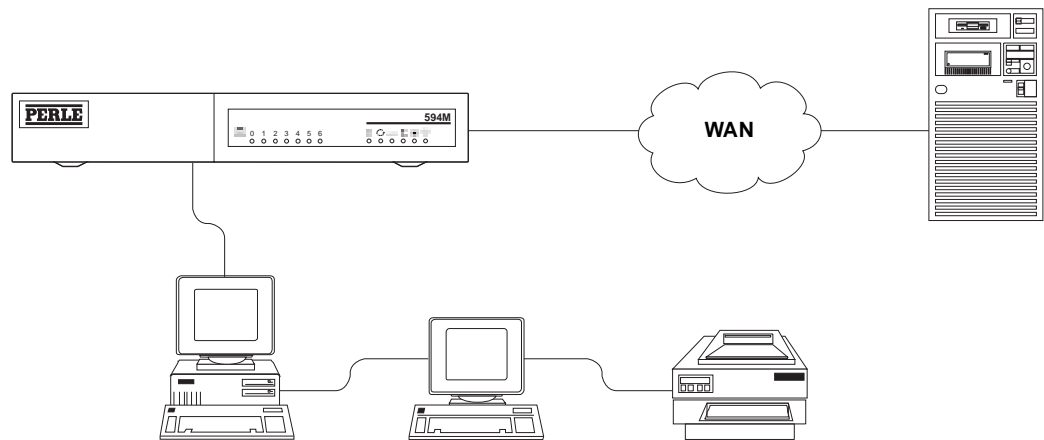

Fig. 1: 594M Controller Attachments
- Fig. 1: 594M Controller Attachments3